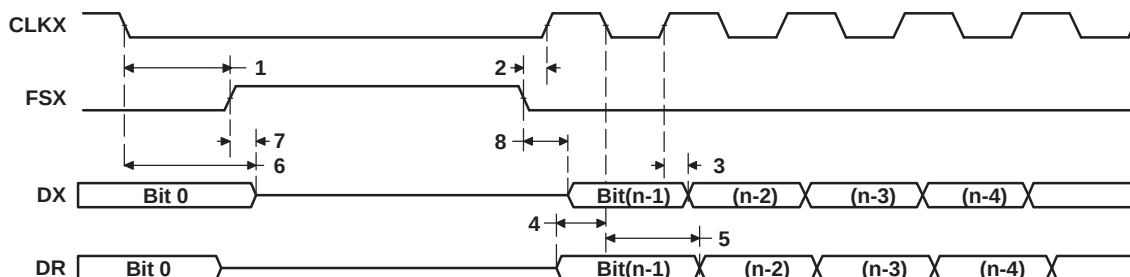

**Figure 6-31. McBSP Timing as SPI Master or Slave: CLKSTP = 10b, CLKXP = 0**
(see Figure 6-31)
(1) P = SYSCLK3 period in ns. For example, when running parts at 600 MHz, use P = 10 ns.
(2) For all SPI Slave modes, the rate of the internal clock CLKG must be at least 8 times faster than that of the SPI data rate. User should program sample rate generator to achieve maximum CLKG by setting CLKSM = CLKGDV = 1.
**Table 6-54. Switching Characteristics Over Recommended Operating Conditions for McBSP as SPI Master or Slave: CLKSTP = 10b, CLKXP = 0(1)(2)** (see Figure 6-31)